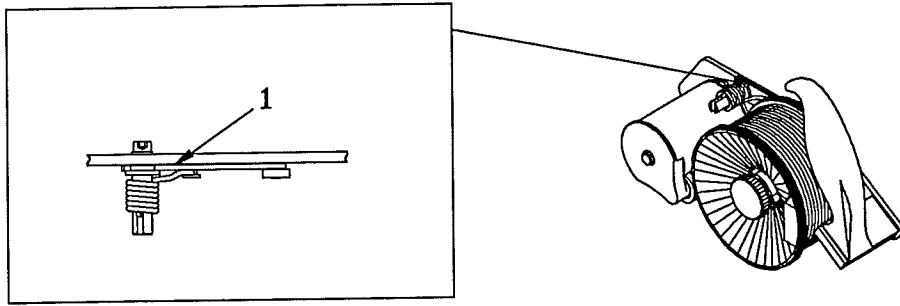

Figure 37 : Greasing the coder
7.6.4 Greasing the coder (see figure 37)